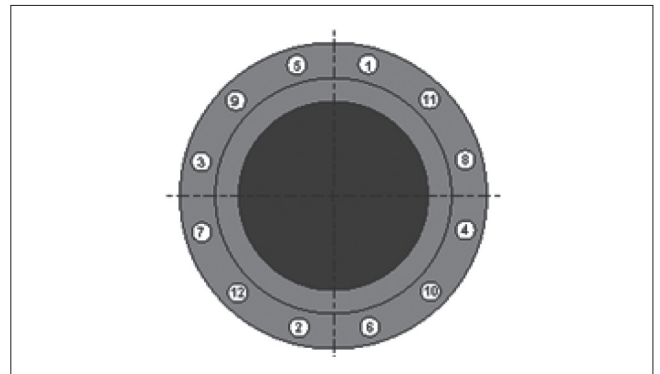

Fig. 5 Crosswise tightening flange bolts
- Turn the flange screws or bolts facing one another crosswise and tighten uniformly using a torque wrench according to operator's specification (see Figure 5).